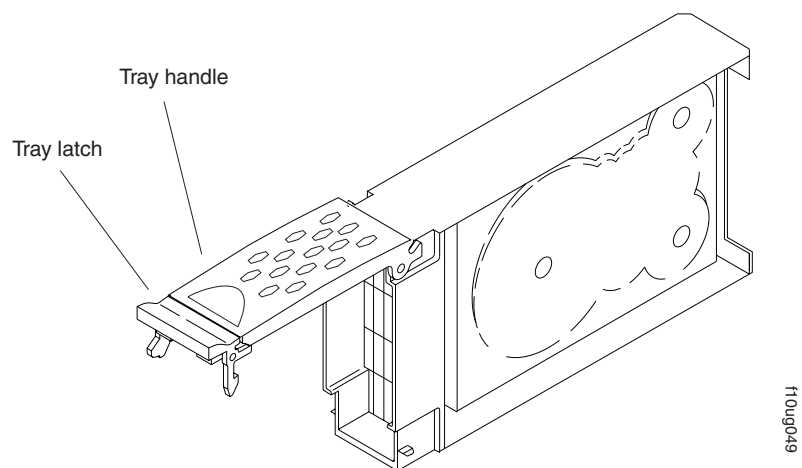

Figure 56. Drive CRU handle
- b. Pull the handle on the tray out so that it is in the open position, as shown in Figure 56.
- a. Release the latch on the drive CRU by pinching together the blue line on the tray latch and the finger hole on the tray handle, as shown by the arrow in Figure 56 on page 71.